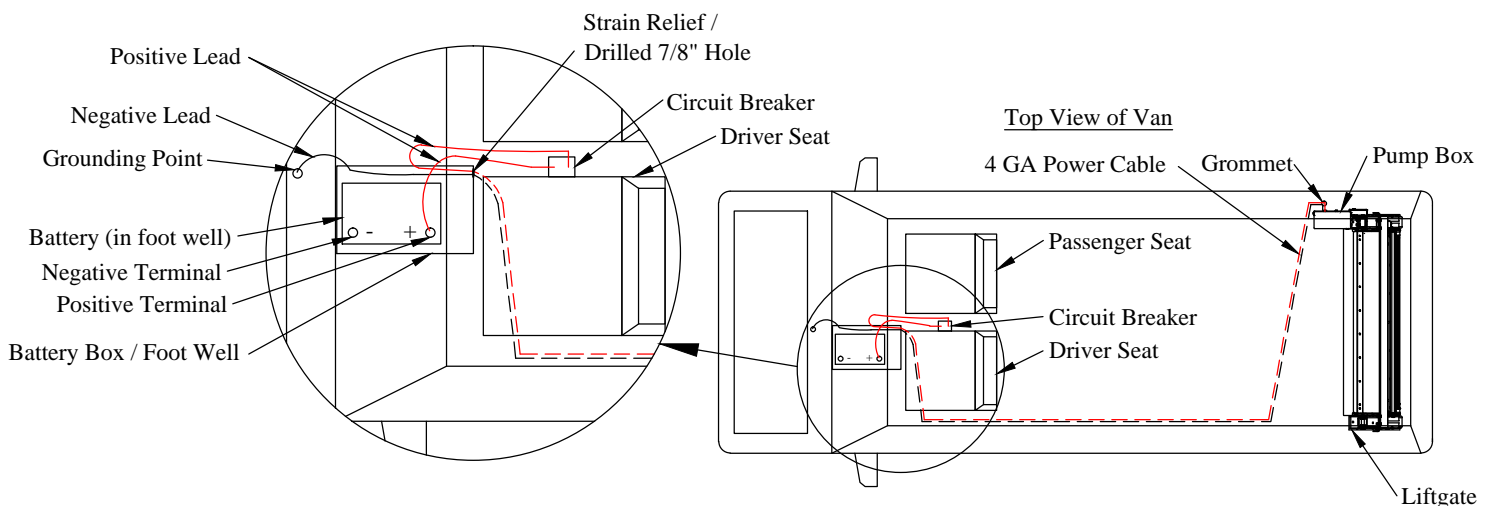

Figure 14: Electrical routing.
1. **Install** the circuit breaker on the side of the driver seat pedestal, near the battery, leaving enough room for the power cables to be installed and so that the circuit breaker can easily be reset (Figure 14).
5. **Route** the power cables under the vehicle from the liftgate, along the frame, to a location near the foot well (Figure 14).